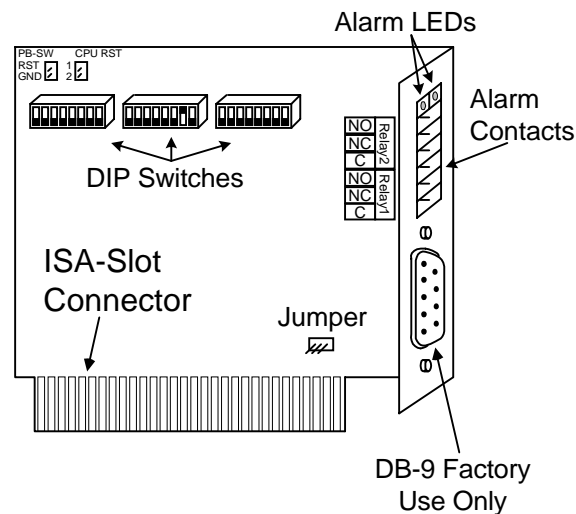

Figure 6. Watchdog Timer Board
- e. The watchdog timer and the module failure alarm are located on a connector on the PC Watchdog module. See Figure 6 (Page 28). The PC Watchdog module has two red LEDs visible on the rear panel. The top (left side) LED blinks at a 0.5-second rate to indicate it is armed. When the watchdog is within 10 seconds of resetting the PC, it will blink at a 0.1-second rate. If the watchdog times out (20 seconds without an arm signal), it will reset the PC and pulse at a 1-second rate until it is rearmed, at which time it will return to a 0.5-second blink rate. When the watchdog resets the PC, it will also turn on the bottom (right side) LED. To clear this LED, cycle power on the PC or press the front panel reset button. The watchdog relay (relay 1) is energized when the watchdog timer has not received an arm signal for 20 seconds. When this happens, the NO (Normally Open) contact is closed to the C(ommon) contact. The module alarm relay (relay 2) is energized when the system is operating normally without a major alarm. When a major alarm occurs, the relay is de-energized. The X menu has an option to clear the module alarm. If the alarm condition still is present, the relay will be immediately de-energized. When the user restarts the system, the module alarm relay will be automatically cleared if all major alarms have been cleared.